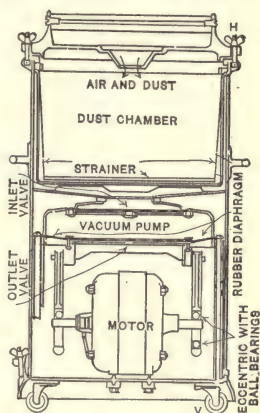

FIG. 82. — Vacuum cleaner.
89. Applications of the vacuum pump. Vacuum cleaning (Fig. 82) is an application of the force of suction, created by a vacuum, to the cleansing of buildings and their furnishings. Some vacuum cleaners are portable and some are stationary, some are operated by hand and some by an electric motor, some tend to produce a vacuum by a pump and some by a rotating fan, but the general principle is the same in all.